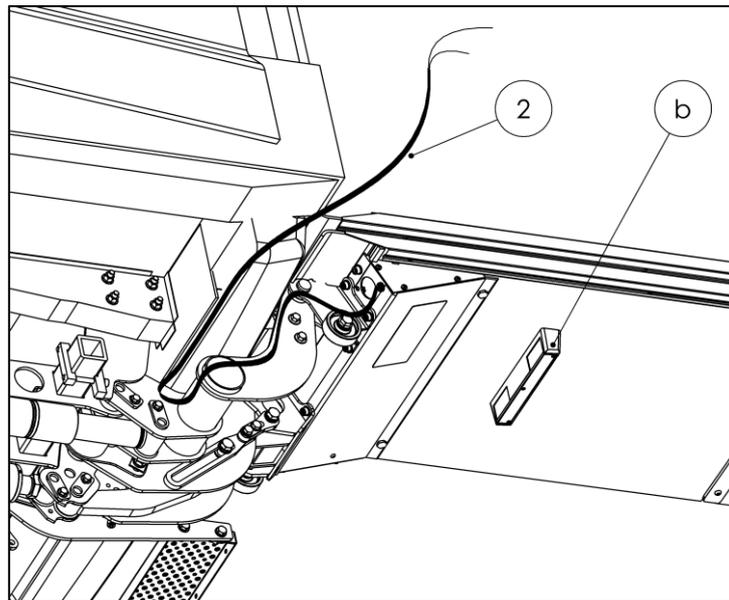

Fig. 69
- Route the license plate light cable (2) (cable outlet from platform's aluminum torsion box) along the closing arm (see Fig. 69).